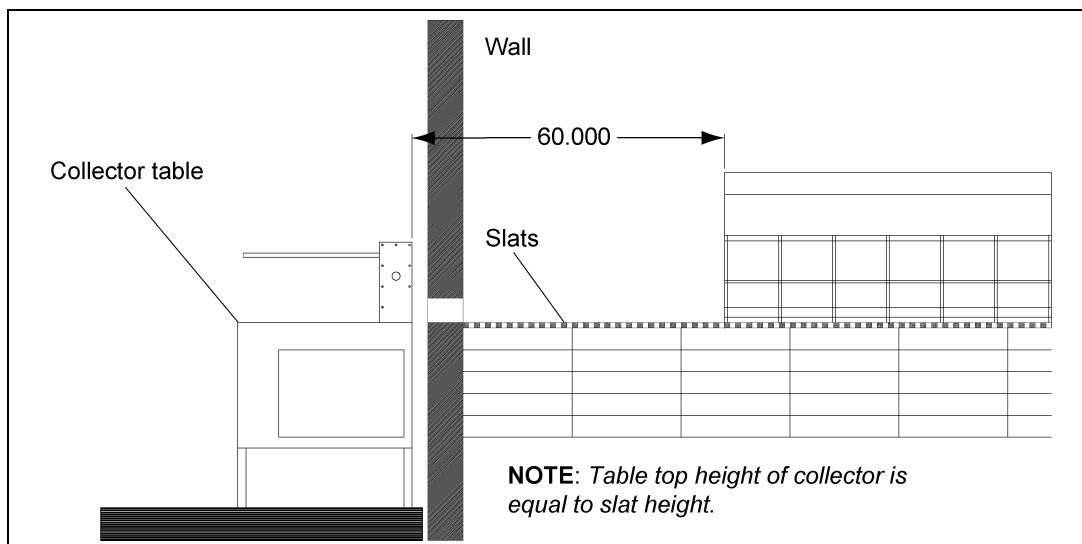
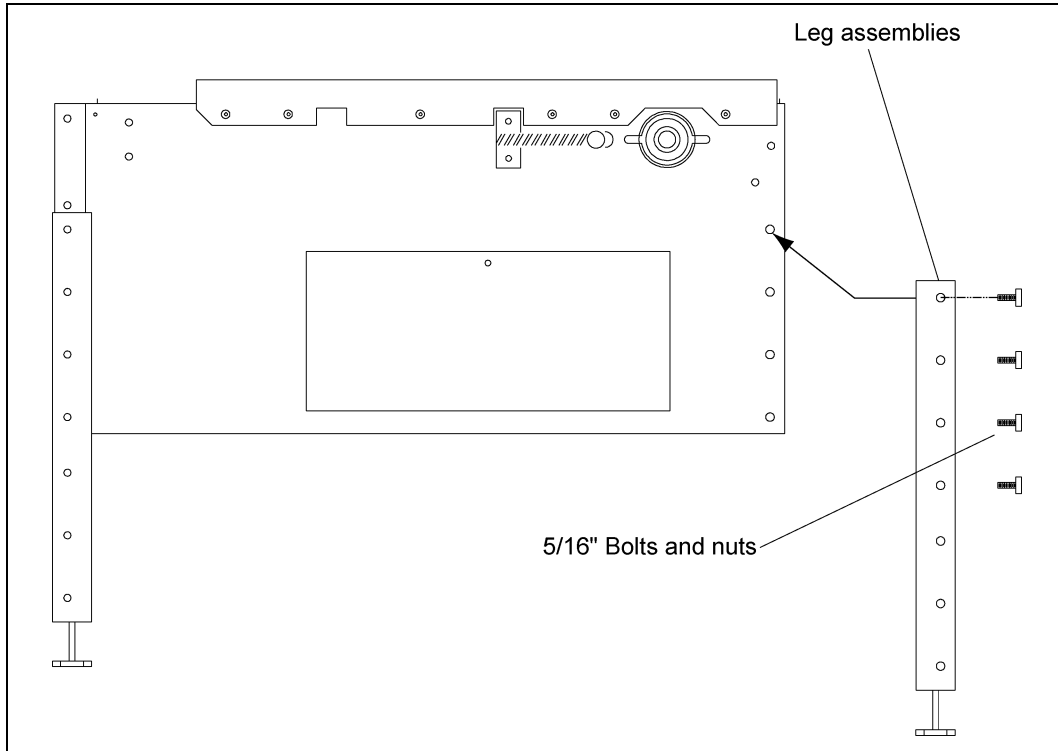

Figure 4S Elevation View of Collector Installation
Figure 4T Leg Assembly
2. Attach the legs to the egg collector assembly in eight (8) locations as shown in Figure 4T on Page 32. Place the legs on the collector such that the table top will be level with the slat height. (See Figure 4S.) Use four (4) 5/16" bolts and nuts to attach each leg in the appropriate position. Space bolts out for maximum weight dispersion. (See Figure 4T on Page 32.) Tighten nuts securely.
5. Rivet the other end of the diverter trays to the table top of the collector using two (2) 3/16" steel rivets. Make certain the diverter tray is level. Raise or lower collector if needed to achieve this. (See Figure 4S on Page 31.)